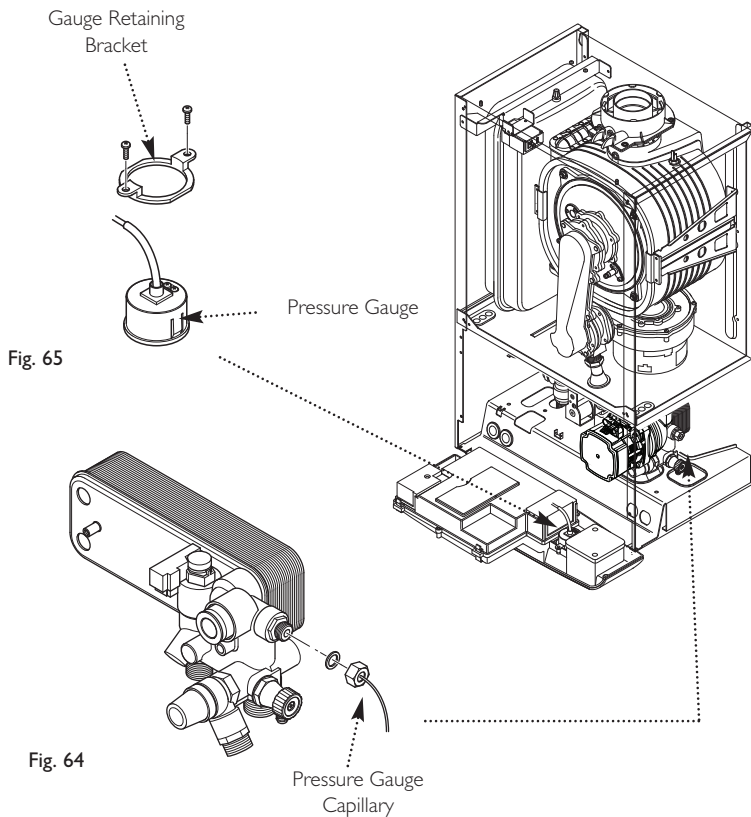

Fig. 64
13.16 Pressure Gauge (Figs. 64 & 65)